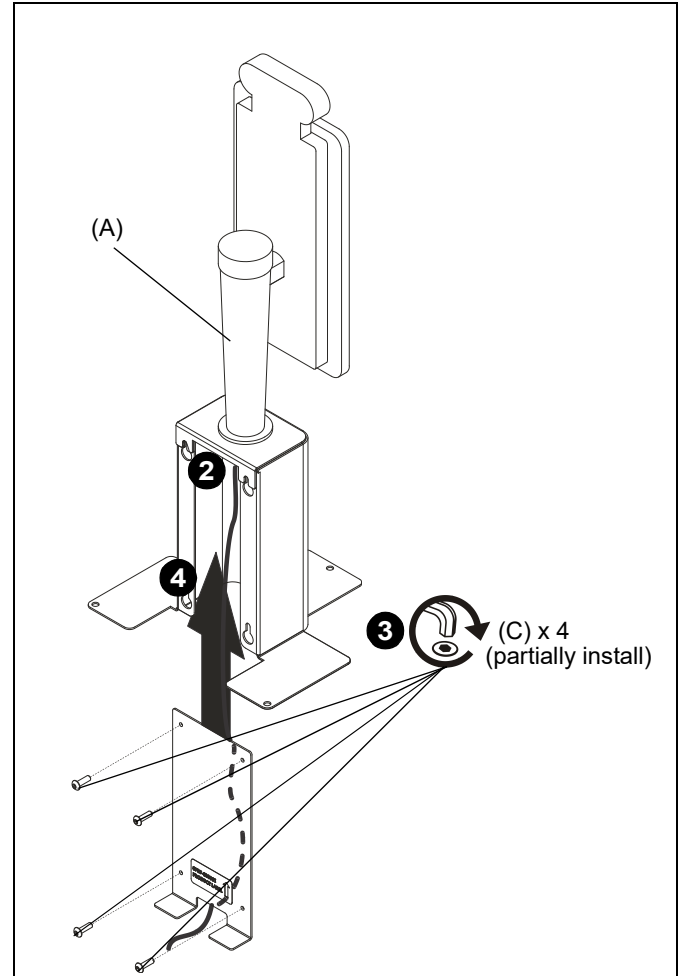

Figure 2
2. Connect cord to bottom of column-mounted tablet. (See Figure 2)
3. Partially install four #10-24 x 5/8" button head cap screws (C) into column cover (B). (See Figure 2)